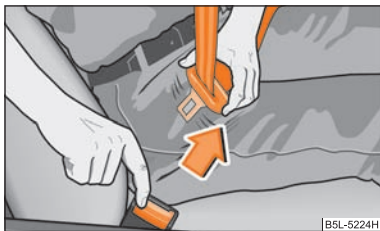

Fig. 133 Releasing lock tongue from belt lock
- Press the red button in the belt lock ⇒ fig. 133. The spring force causes the tongue of the lock to jump out.